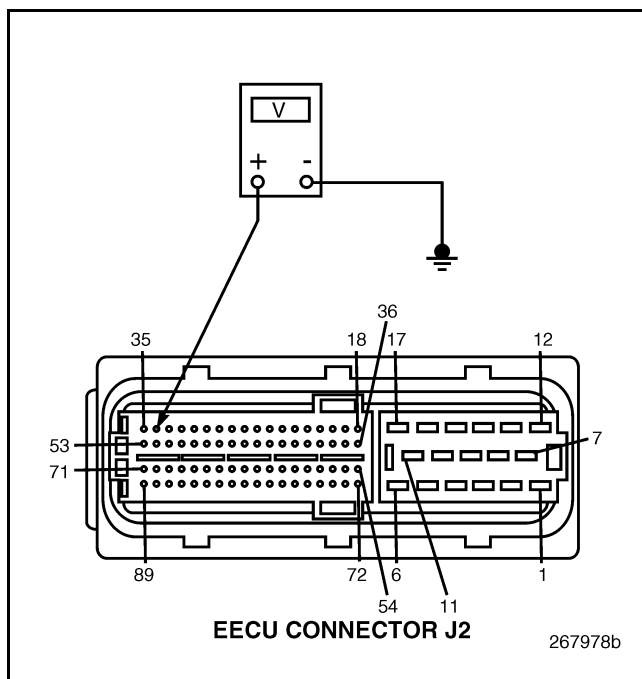

Figure 728
4. Measure the voltage between EECU connector J2 pin 34 versus a good ground (see Figure 728).